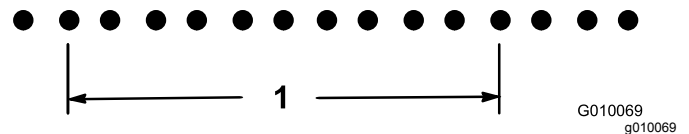

Figure 68
21.2 divided by 10 is 2.12, hole spacing is long by .12 inch from nominal (Figure 68).